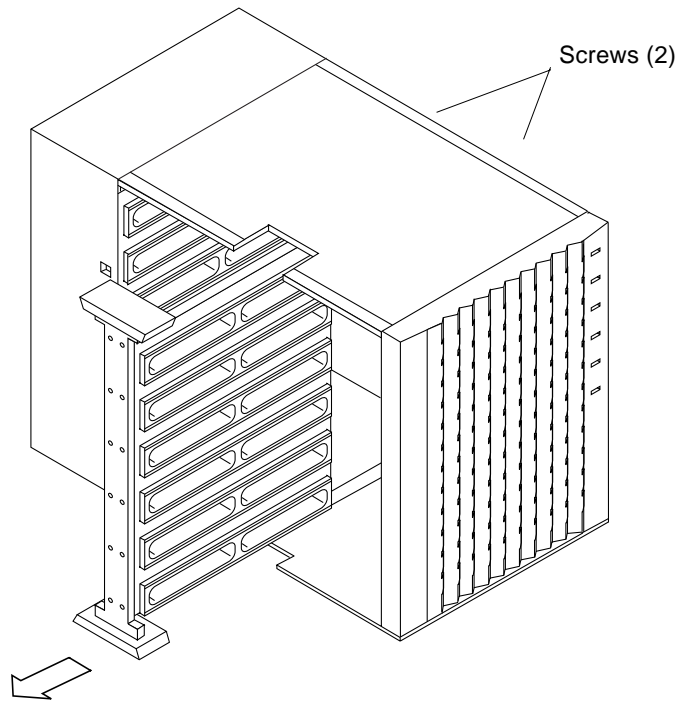

FIGURE 6-5 Removing the Partition
- 10. Remove the two screws on the right side of the unit that connect the partition between the drives to the backplane and chassis (FIGURE 6-5).**
- 11. Slide the partition out of the unit (FIGURE 6-5).**
3. **Slide the partition all the way back into the slot so that it rests against the backplane (FIGURE 6-5).**
- 4. Insert and secure the two screws on the right side of the unit that secure the partition to the backplane and chassis (FIGURE 6-5).**